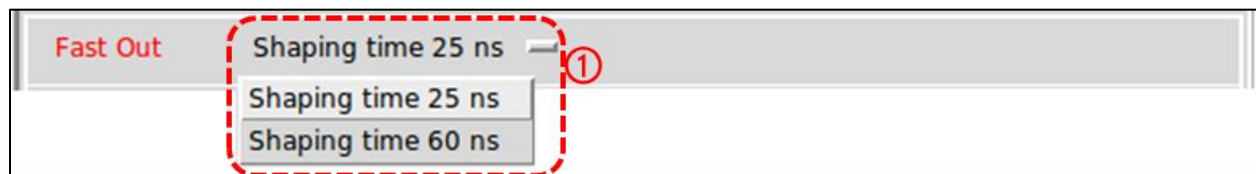

Figure 21: Fast OUT shaper module / basic mode.
In the basic mode, the experimenter can find the same shaping time choices that he had used with the FASTER CRRC4-Spectro MnM (c.f. Figure 21 ①). That means a 25 ns shaping time and a 60 ns shaping time.